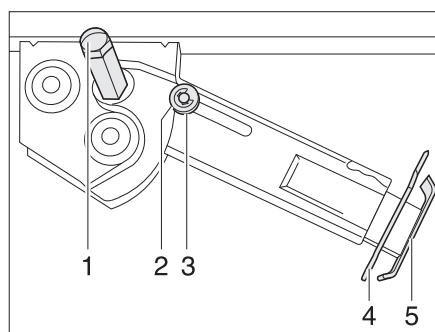

Fig. 39 Steady leg
- Place the socket spanner on the hexagon nut (Fig. 39,1) and rotate until the steady leg is in a perpendicular downward position.
- Remove the splint (Fig. 39,4) out of the support foot extension (Fig. 39,5).
- Place the socket spanner on the hexagon nut (Fig. 39,1) and rotate until the steady leg is clear of the ground.
- Push in the support foot extension (Fig. 39,5) and insert the splint (Fig. 39,4) in the drilled hole in the support foot extension.
- Rotate the hexagonal nut (Fig. 39,1) with the socket spanner until the steady leg has swung upwards and the guide disc (Fig. 39,3) has completely retracted into the notch (Fig. 39,2).